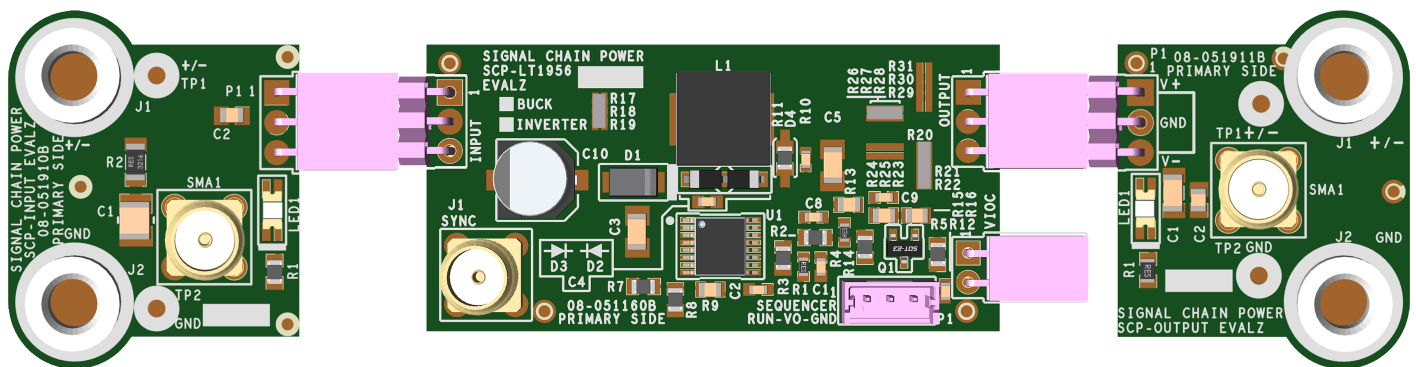

Figure 2. Proper Measurement Equipment Setup (Use SMA connectors for Measuring Input or Output Ripple)
2. Connect the SCP-INPUT-EVALZ and SCP-OUTPUT-EVALZ boards to the SCP-LT1956-IEVALZ (refer to Figure 2) and connect the input board to a voltage source, V_{SOURCE} . Connect the output board to a voltmeter or dynamic load. Slowly raise the input voltage until the SCP-LT1956-IEVALZ powers up into regulation and sweep V_{SOURCE} through the desired range of operation.